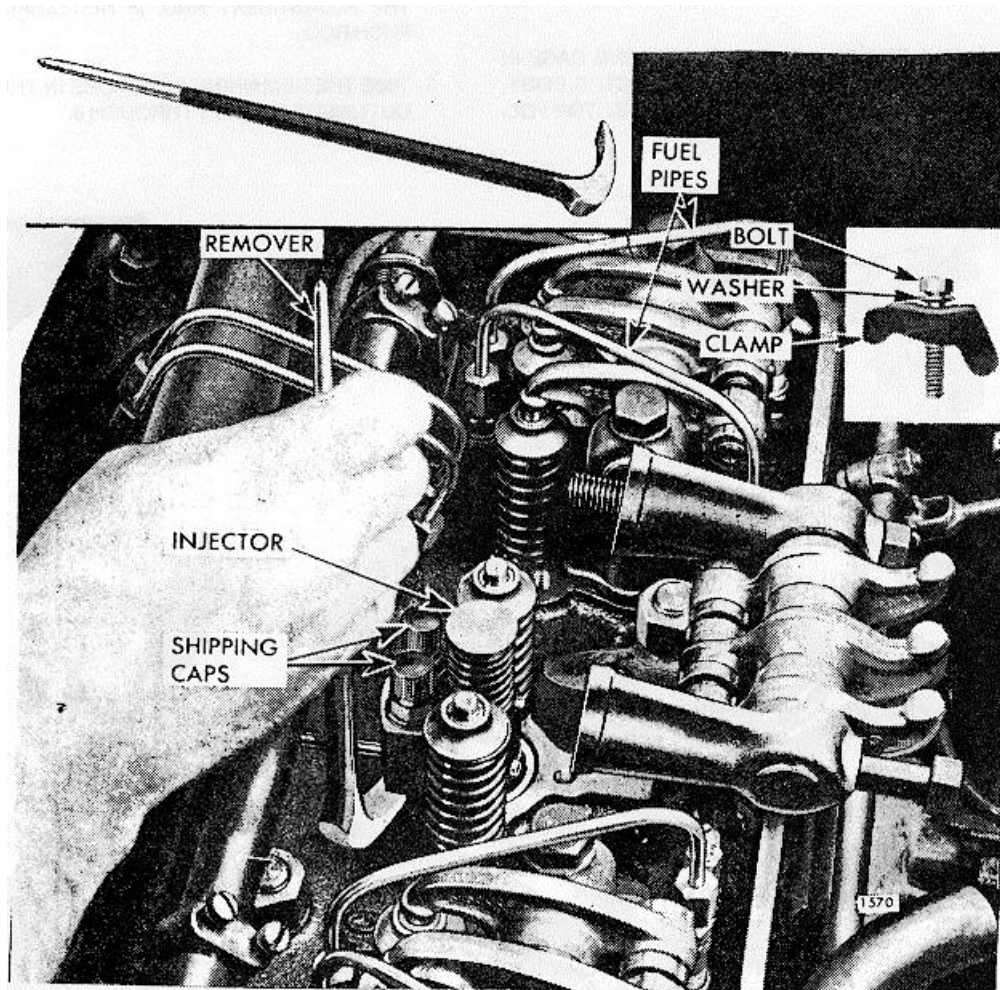

Figure 5-12. Fuel Injector Removal and Installation.
- (1) Remove rocker arm cover.
- (2) Remove two fuel tubes (Figure 5-12).
- (3) Crank engine with starting motor to bring push rod ends, outer ends of injector, and valve rocker arms in line horizontally.
- (4) Remove rocker arm shaft bracket bolts and fuel injector as illustrated in Figure 5-12.